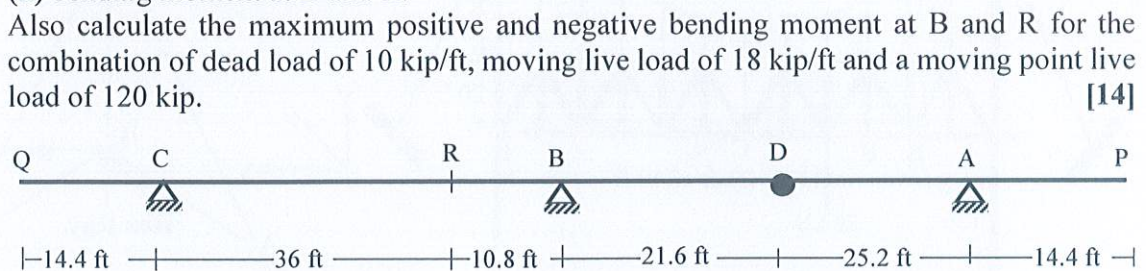

Fig.A3
3. A continuous beam is shown in *Fig A3*. Draw the influence line for the following cases: